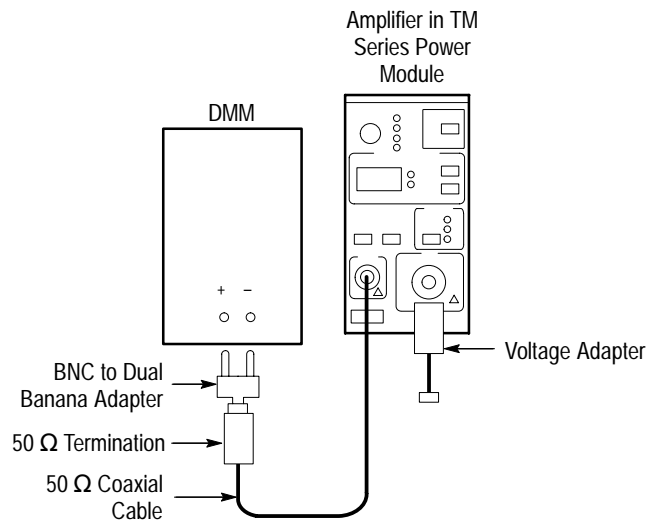

Figure 2: Setup for DC Balance
2. Taking care to observe and maintain polarity, insert the dual banana adapter into the digital multimeter DC voltage input. Refer to Figure 2.